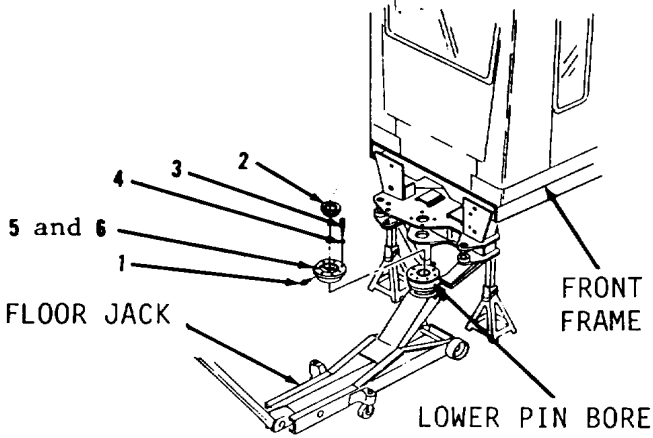
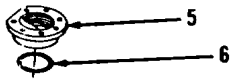

Figure 16-23.
Figure 16-24.
1. Position floor jack under lower pin bore on front frame (Figure 16-23).
2. Remove fitting (1), spacer (2), seven bolts (3), washers (4) and items 5 and 6 as an assembly.
3. Remove and discard seal (6) from cap (5, Figure 16-24).